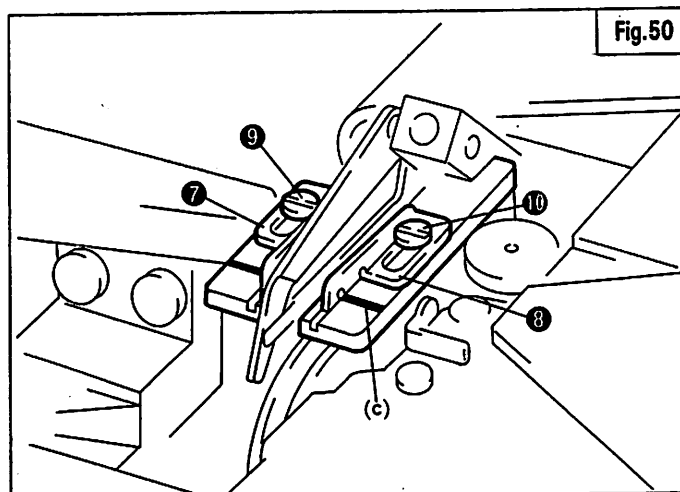

Fig.50
[7] Setting Thread Guide ⑦ and ⑧ (Fig.50)